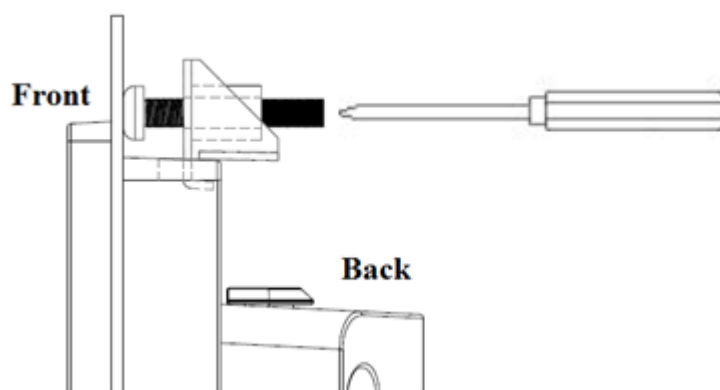

Figure 2.26 Fasten the hook bracket
5. Tighten the screws to affix the panel PC in place (Figure 2.26).